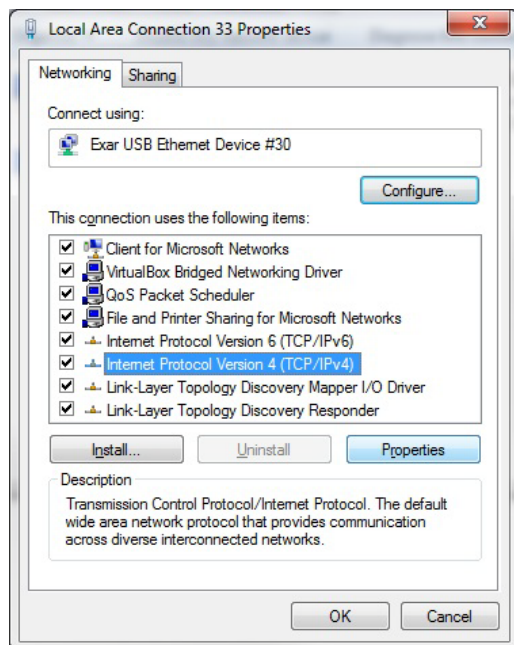

Figure 8: Local Area Connection Properties window
4. On the properties page select “Internet Protocol Version 4” and click on Properties button as shown in Figure 8